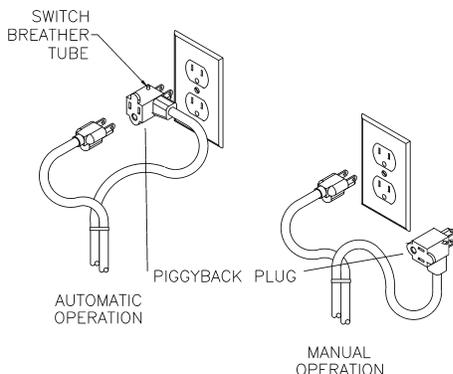

FIGURE 1
- For automatic operation, plug the pump plug into the piggyback receptacle, then plug the piggyback plug into a properly grounded outlet. For manual operation, plug the pump plug directly into properly grounded outlet. These connections are illustrated in Figure 1.
- The switch cord contains a small, white breather tube that extends out of the switch plug (Figure 1). Be sure the switch cord is not pinched and that air flow in the breather tube is not restricted. DO NOT allow water to enter into breather tube. Non-restricted air flow is required for proper switch operation.
Pump plugged directly into outlet.	See Figure 1
Defective switch	Operate pump manually (see figure 1). Replace switch if necessary. Disconnect switch, check w/ohmmeter. Open-infinite resistance, closed-zero. With no water present switch should be open. Replace switch.